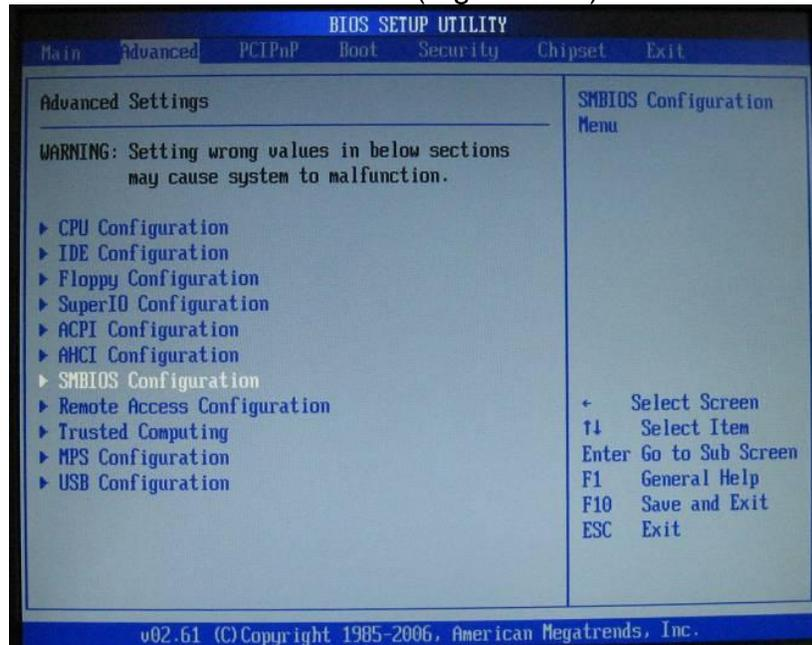

Figure 8-28 SMBIOS Configuration Page
18. On **Advanced Settings** screen scroll down to **SMBIOS Configuration**, Press **Enter**. (Figure 8-28).